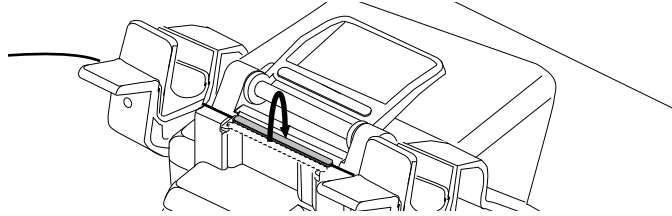

Figure 44
- c) Fold the front half of the protector over the splice (Figure 44).